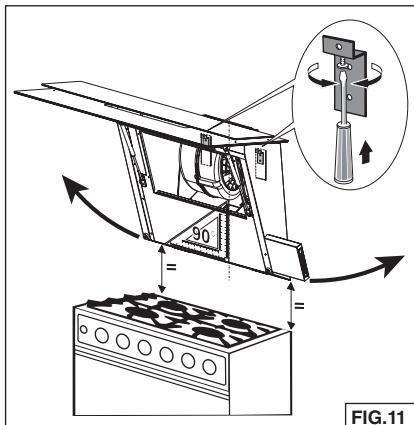
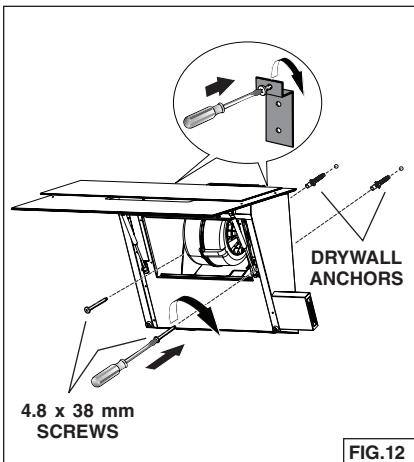

FIG.11
FIG.12
6. Use adjustment screws on wall brackets to level hood. Fig.11
7. From inside the hood, locate (2) holes for drywall anchors. Mark their location on the wall.
8. Remove hood from the wall and drill (2) 5/16" holes. Install drywall anchors as shown. Fig.12
9. Lift hood back onto wall mounting brackets. Secure hood to the wall with (2) 4.8 x 38mm mounting screws.